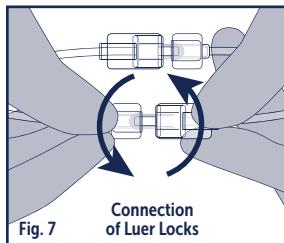

Fig. 7
**Caution!** Connect one Tube Kit to one COOLIEF® SINERGY® Probe. (Fig. 7)